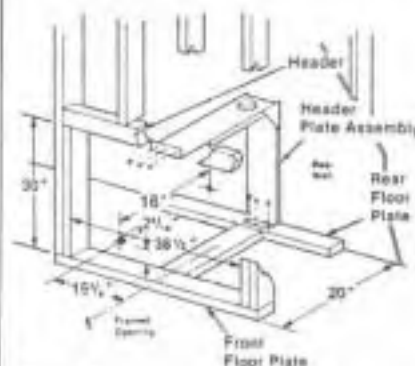

Figure 5
Step 2: Secure the Header Plate Assembly to the header and the rear floor plate with six (6) 8d nails (figure 5).